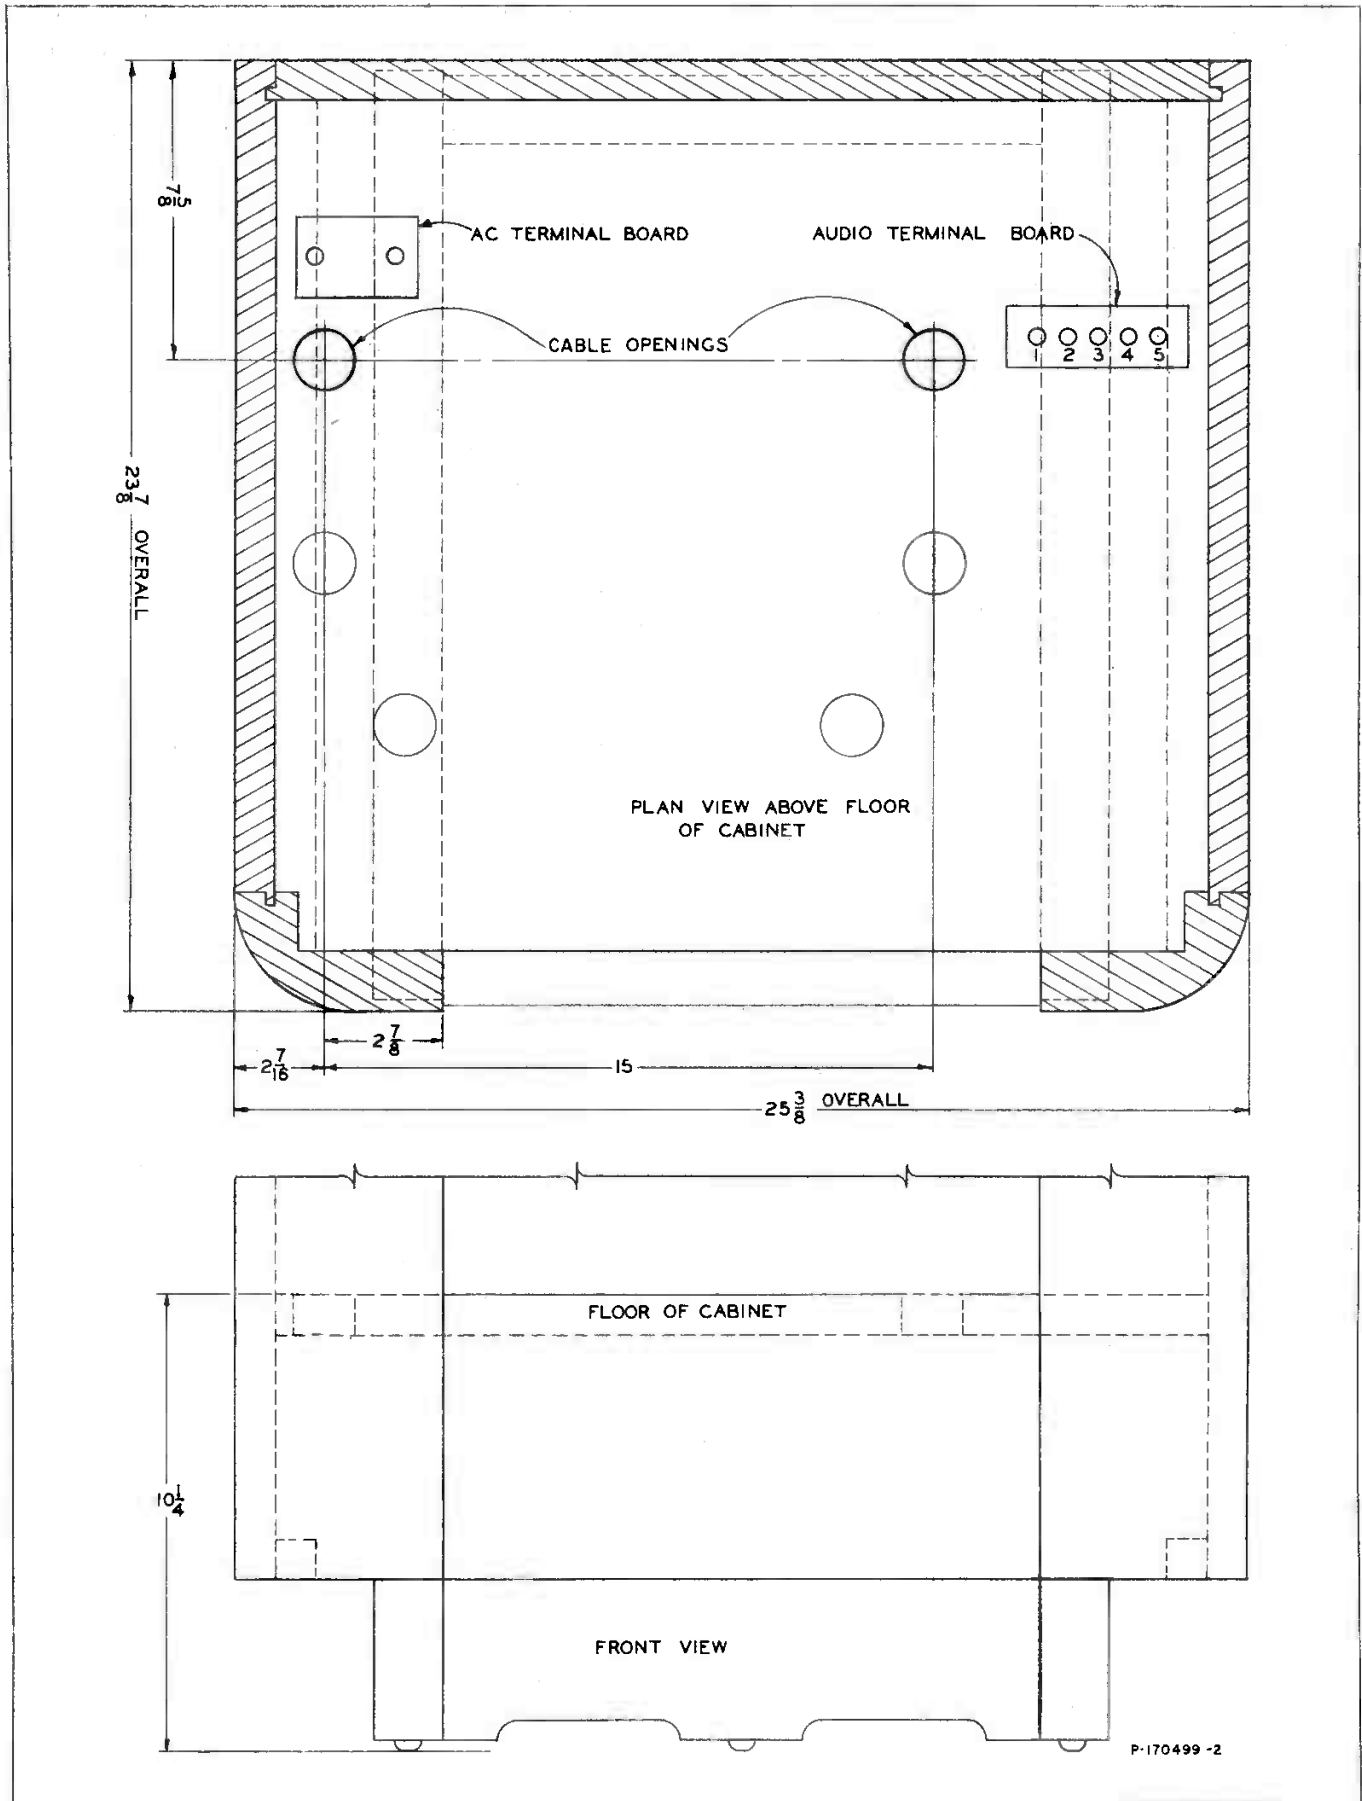

Figure 4—Location of cable openings.
26. Refer to figure 4 for the position of the a-c and audio terminal boards and for the location of cable openings. Make the required connections to an a-c power supply of the voltage and frequency specified on the nameplate. If rigid conduit is used, be sure no part of the conduit touches the cabinet.